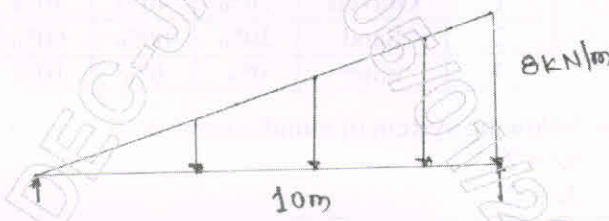

Fig.Q7
- 7 Determine the bending moments and deflections at the interval of 2.5m by finite difference for beam shown Fig.Q7. (20 Marks)